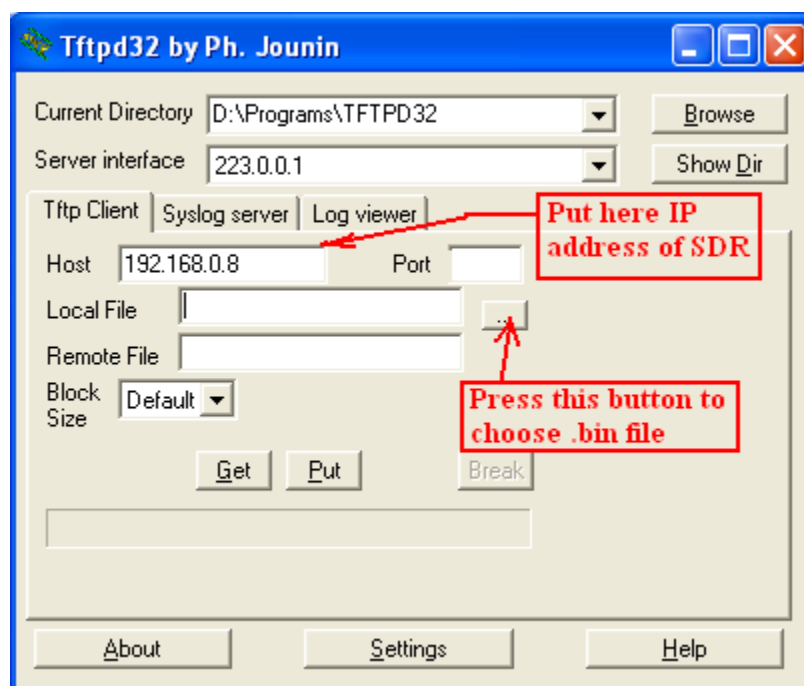

Figure 8 Tftpd32 utility (red color writings shows author's comments)
- 3.1.5. You need to start tftpd32.exe utility, screen-shot of this utility is shown on **Figure.8**
After first start of this utility you can (but not must) configure it to run only in tftp client mode, to do this you need to press "Settings" button (see **Figure.8**). In "Tftp Client" tab you need to enter IP address of AFEDRI SDR-Net receiver.